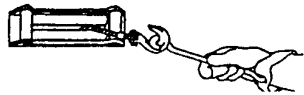

Figure 2
7. NEVER WINCH WITH LESS THAN 5 TURNS of wire rope AROUND THE WINCH DRUM since the wire rope end fastener will NOT withstand a load. Your X9 winch wire rope has a ten-foot red "warning indicator" on each end. The "warning indicator" at the winch end warns you that the wire rope is near or less than 5 turns. The "warning indicator" at the hook end of the wire rope warns you that the hook is approaching the winch. ALWAYS USE THE HANDSAVER BAR when guiding the wire rope in or out (see Figure 2). As you use your winch, the red paint will wear off due to normal use. When this happens, renew the red paint as it is a **safety feature of the winch.**